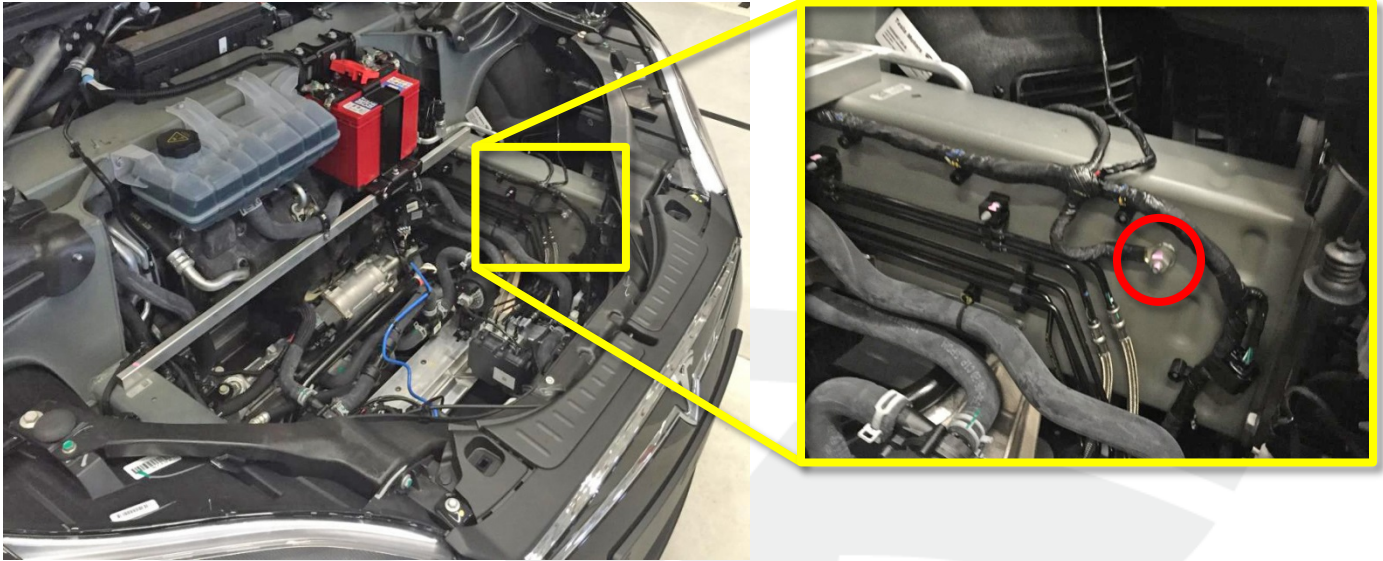

Figure 1
2. Fully torque the ground nut (torque 9 Nm) (Figure 1). Ensure that the nut cannot be loosened by hand.